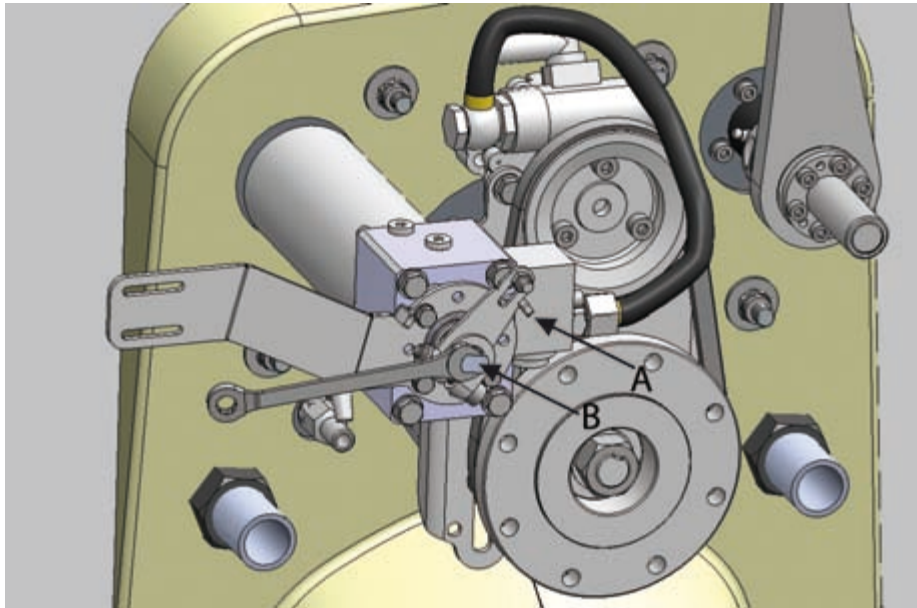

Figure 72. Operating shaft and limiter
3. Place the lever against the limiter on the shaft (figure 72, point A).
5. Using a wrench, turn the operating shaft (figure 72, point B) 13 mm (0.4") clockwise so that the reversing deflector is down, blocking the jet flow.